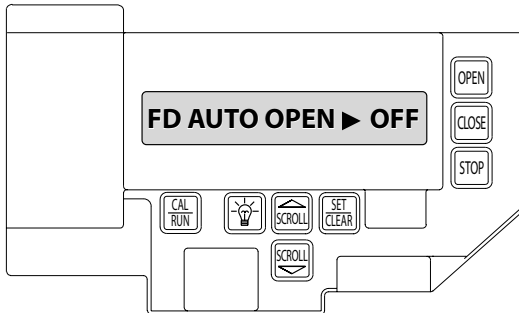

Fig. 15
- 1) Press SET/CLEAR to toggle between ON or OFF. Fig. 15